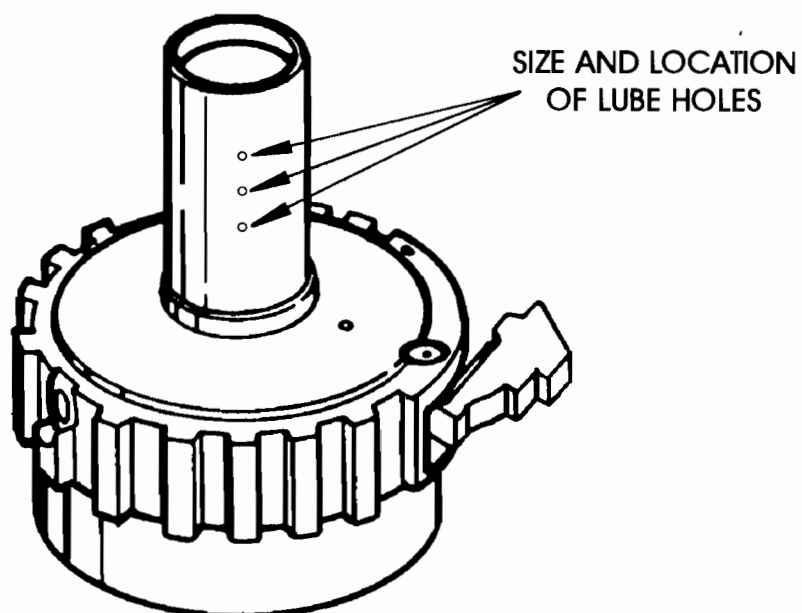

Figure 7
- (8) FINAL DRIVE RING GEAR - Revised lubrication hole sizes and locations in support to accommodate the new design 1-2 roller clutch assembly, as shown in Figure 7.